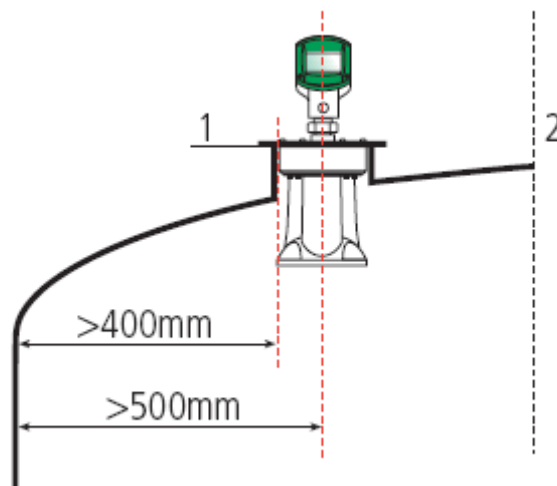

Figure 6 Closed Vessel Installation
- ① The installation point in the vessel must be at least 0.5 meters from the side of the vessel, as shown in *Figure 6*. The most optimal place is between the silo side and the silo center.